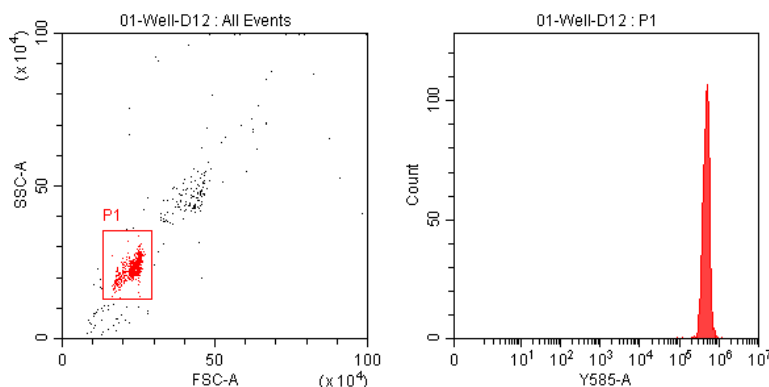

Figure 4. Optimization of PMT Voltages for FSC/SSC, PE Signals
3.2.3 Create a histogram with PE on the X-axis. Vortex the PE positive control for 30 seconds and analyze at a low flow rate. Adjust FSC/SSC settings to clearly visualize the bead population, then set PMT voltages to ensure the PE signal falls within the detection range and preferably in the higher intensity region (Figure 4).